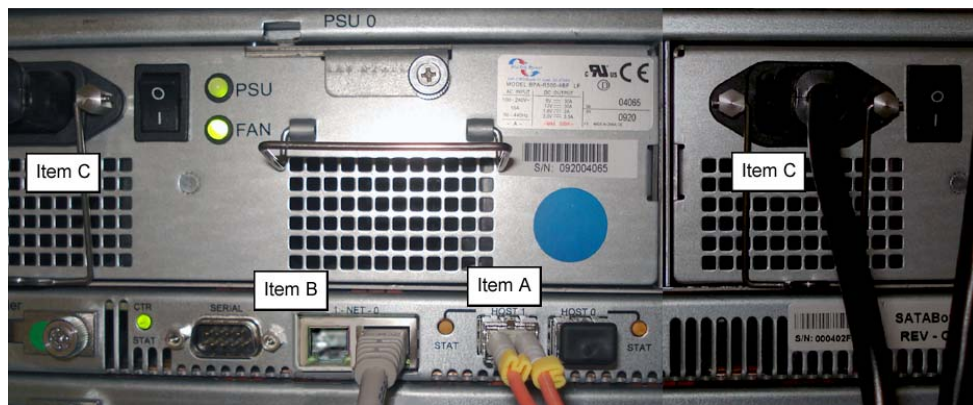

Figure 2: Back of the Nexsan SATABoY
- C. Plug the other end of the fibre channel cable into the storage device's HOST "1" channel (see Figure 2, Item A).
- D. Plug the other end of the CAT-5E crossover cable into the storage device's NET "1" port (see Figure 2, Item B).
- E. Plug the storage device's AC power cords into the rear sections of the unit (see Figure 2, Item C).